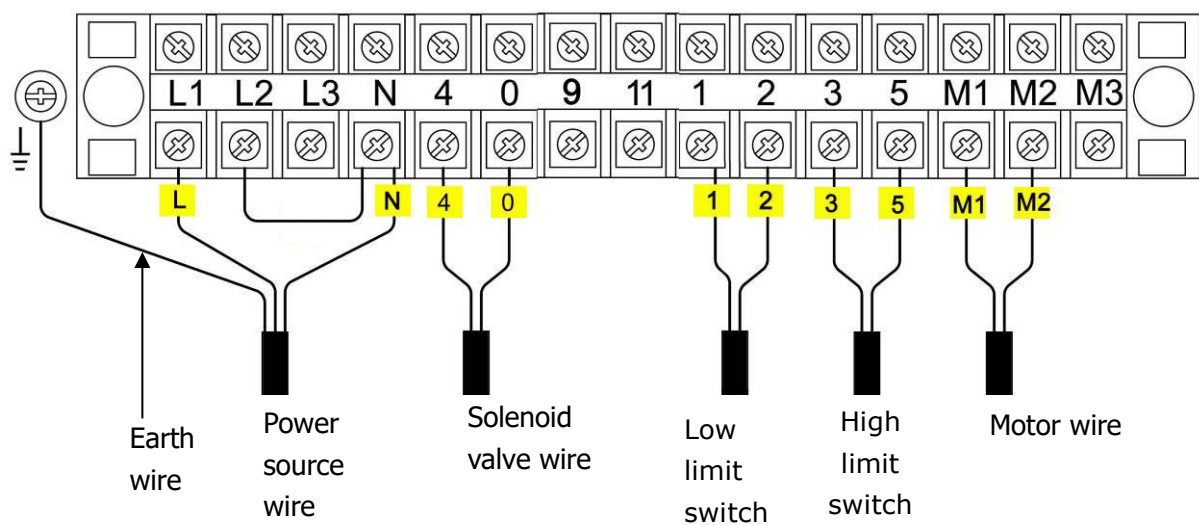

Fig.31
3.1 Wire connection diagram in the control box (See Fig. 31)